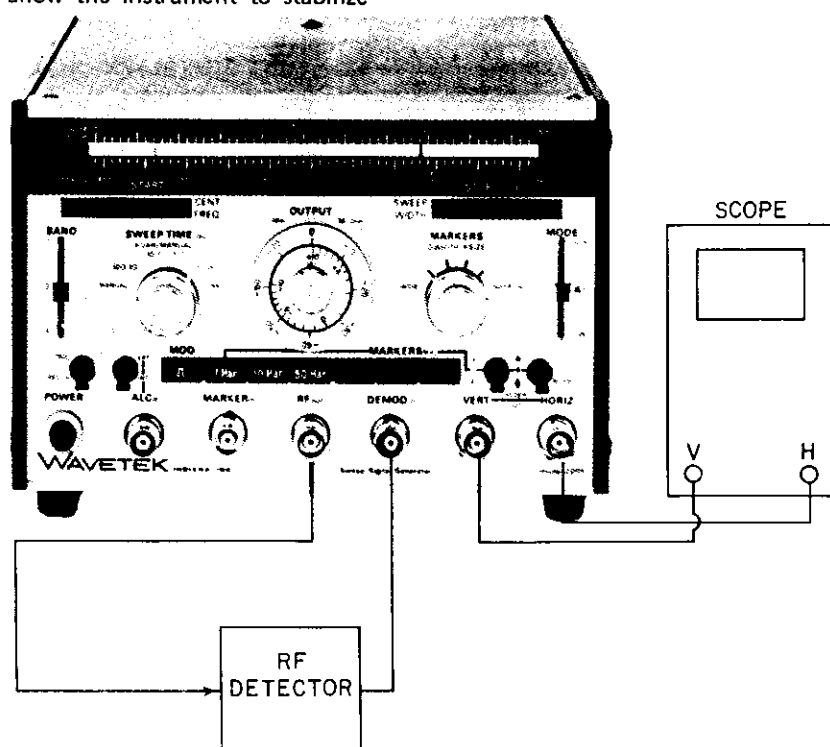
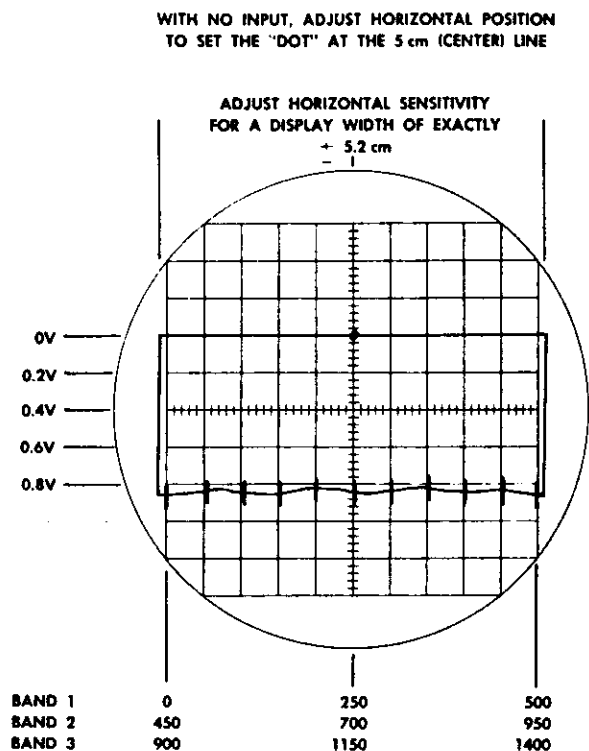

Figure 5-4. Typical Set-Up
Figure 5-5. RF Detector Display
Connect the instrument to the RF detector and scope as shown in typical setup Figure 5-4. Set the SWEEP WIDTH control (right thumb wheel) to 520 MHz and the MODE switch to  $\Delta F$ . Leave the rest of the controls as previously set in step 5.3.1. Adjust the MARKER SIZE, the scope vertical, and scope horizontal controls to obtain a pattern as shown in Figure 5-5. Use DC coupling on both the vertical and horizontal scope inputs. The output voltage from the detector will be approximately 0.8 volts. A detected output less than 0.7 volts indicates a defective detector or an uncalibrated scope. Each 50 MHz marker must fall within  $\pm 0.2$  cm of each CM line on the scope graticule. This is equivalent to a display linearity of 2%. This 2% specification is extremely important since all dial accuracy specifications are directly related to it. Repeat check on BANDS 2 and 3. In order to identify absolute frequencies on bands 2 and 3, an external CW signal can be connected to the EXTERNAL MARKER IN connector to identify one of the 50 MHz harmonic markers. This also verifies the operation of the external marker circuit.
**START/STOP MODE:** Return to BAND 1 and set the MODE to S/S (Start/Stop). Set START to -10 MHz and STOP to 510 MHz. A pattern similar to Figure 5-5 should be present on the scope display. Reduce STOP control until the 500 MHz marker just disappears from the right side of its scope display; read error of the STOP frequency indicator (red), repeat at each 50 MHz interval.
Connect the equipment as shown in Figure 5-4. Adjust the sweep generator and oscilloscope controls to obtain the display shown in Figure 5-5. The actual control settings would be the same as in paragraph 5.3.2.